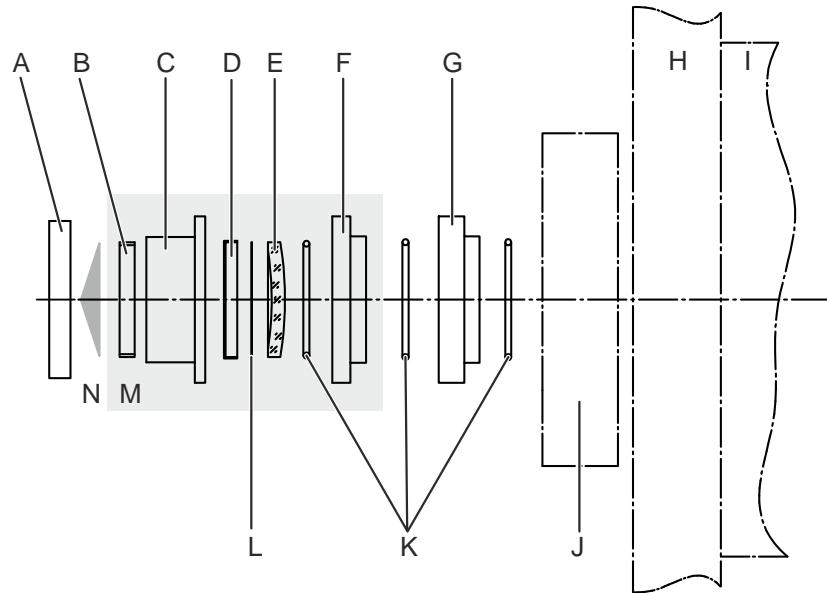

Figure 103: Unstable resonator output coupler assembly (top view)
5. Taking into account the direction of the beam (see Figure 103, N), insert the meniscus lens (E), spacer (L), collar (D), and one of the sealing rings (K) into the counter optics mount (F).
Key to Figure 103: